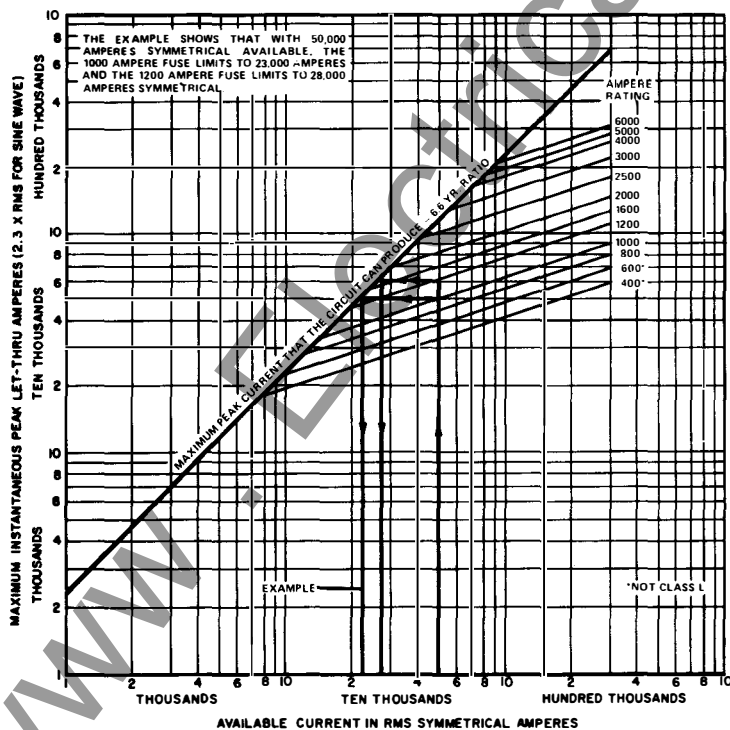

Figure 40. Fuse Peak Let-Thru Characteristic.
2. When used to protect downstream equipment, the fuse must limit the fault to less than the rating of the protected equipment. This can be checked using the "Let-Thru" chart, Figure 40, which contains an example of the limiting effect of the fuse.